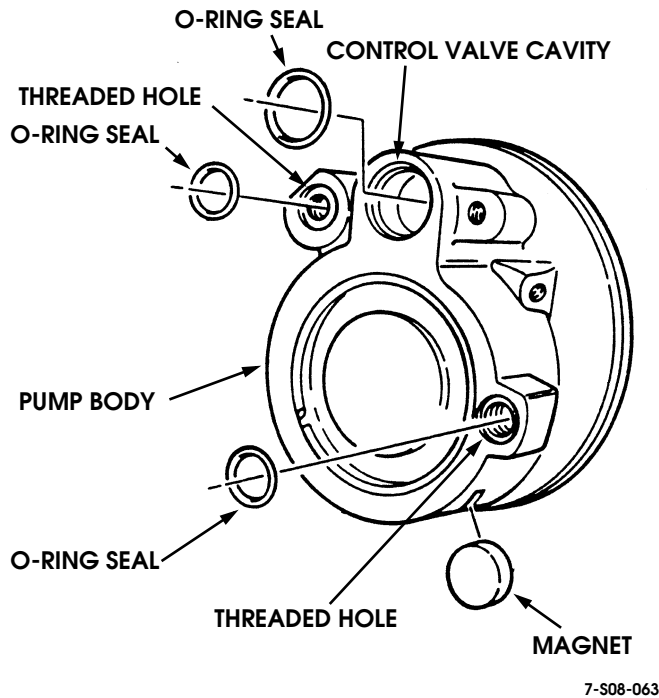

Figure 8-81: "O" Ring Installation
- 15. Install magnet in pump body (Figure 8-81).